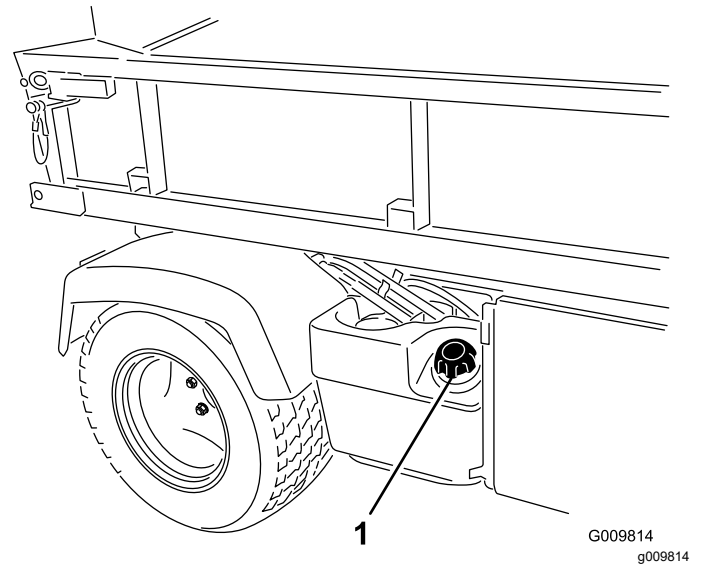

Figure 14
2. Remove the fuel-tank cap (Figure 14).